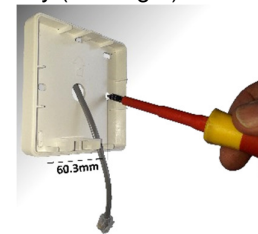

Fig 8.
- Step 2** Feed one end of the RJ control cable through the switch box, feed and secure the RJ control cable through the back case and secure back case to switch box using 2 mounting screws (not supplied) (see Fig 8).